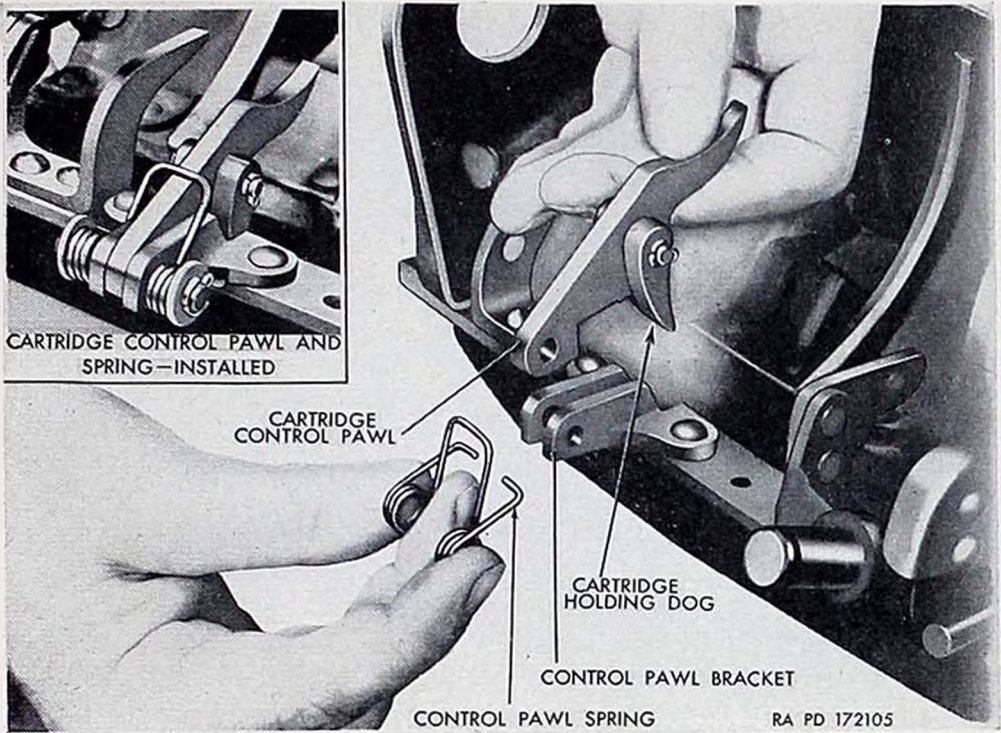

Figure 156. Installing cartridge control pawl.
c. Hold cartridge control pawl with cartridge holding dog so that dog is facing toward mouth of frame, as shown in figure 156. Hold cartridge pawl spring so that open ends of spring are under the control pawl bracket and upper end of spring is on top of cartridge control pawl (fig. 156). Align control pawl, bracket, and spring and secure them with cartridge control pawl pin, washers, and cotter pins (fig. 147).